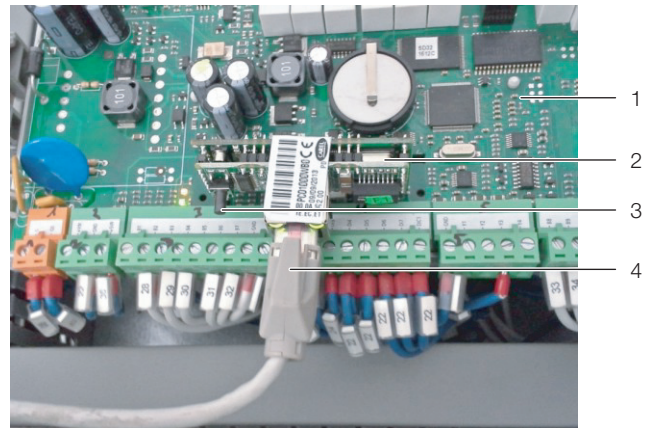

Fig. 37: pCO Web card
- Press the Reset button (fig. 37, item 3), if necessary with the assistance of a second person, and keep it held down for around 20 seconds whilst the card is booting up, until the status LED flashes three times slowly.